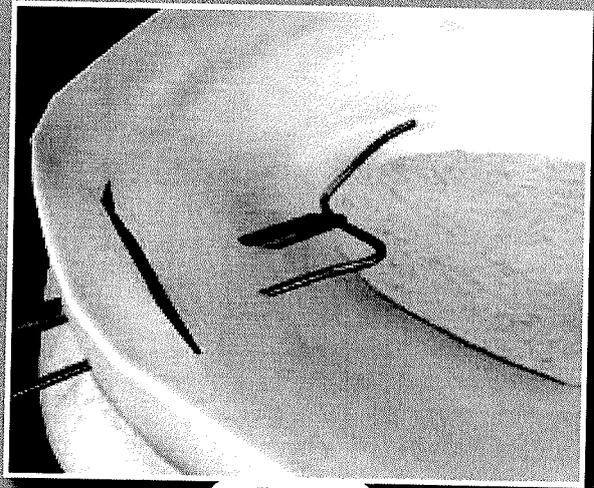

Figure 6
- § Repeat the previous step for the second needle (Figure 6).